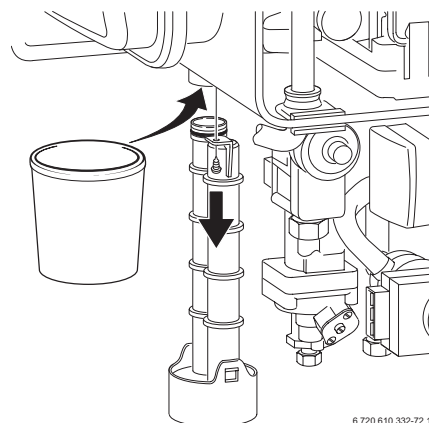

Fig. 46
- ▶ Unscrew condensation trap and place suitable container underneath. Refer to fig. 46.
In order to prevent spillage of condensate the condensation trap should be completely removed, (see page 37, fig. 46).